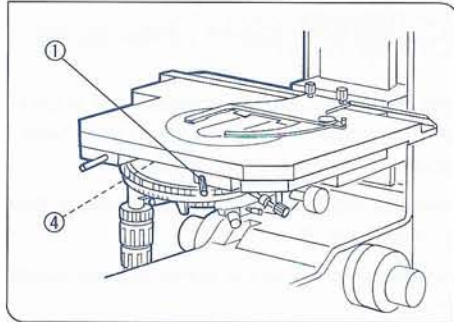

Fig. 32
(Figs. 32, 33, 34)
2. Loosen the stage clamping screw, and rotate the stage approximately 180°. (Fig. 32)